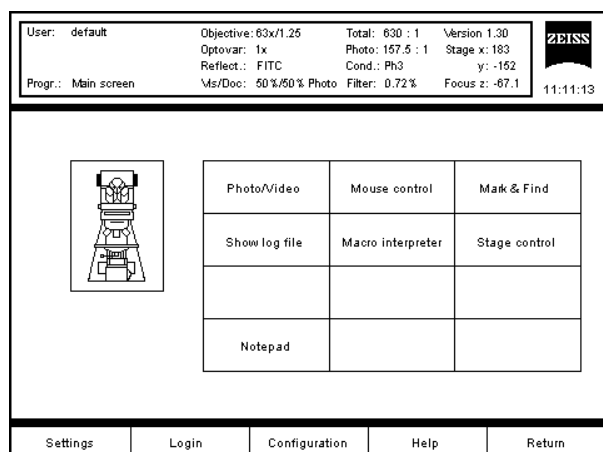

Fig. 48 Main Screen of the Microscope Software
- Click on the **Login** button on the Main Screen (Fig. 48).
Fig. 48 shows one of several possible configurations of the Main Screen. From the Main screen you can access the Axioplan 2 functions.